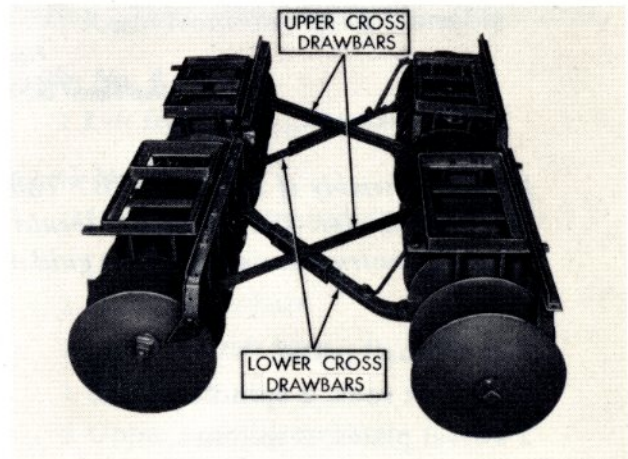

Figure 5
Step 3: Attach upper cross drawbars to front and rear gangs with pins and cotter pins as shown in Figure 5 (Note that the upper cross drawbars cross over the lower cross drawbars).